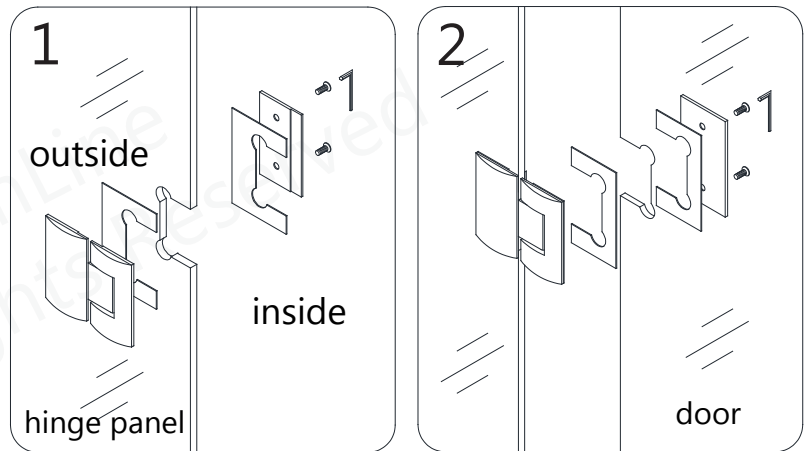

Fig 8a
8. Attach the **Hinges (#06)** to the **Hinge Panel Glass (#01)** (with the bolts facing inside the shower). Use at least one gasket per side. Make sure that the hinges are flush to the edge of the glass and level. Carefully bring the **Door Glass (#02)** into the shower between the two stationary panels. Level up the **Door Glass (#02)** next to the **Hinge Panel Glass (#01)** and fasten the hinges onto the **Door Glass (#02)**. Make sure the top edges of the **Door Glass (#02)** and both **Glass panels** are flush and level. (**Fig 8a, Fig 8b and Fig 8c**)